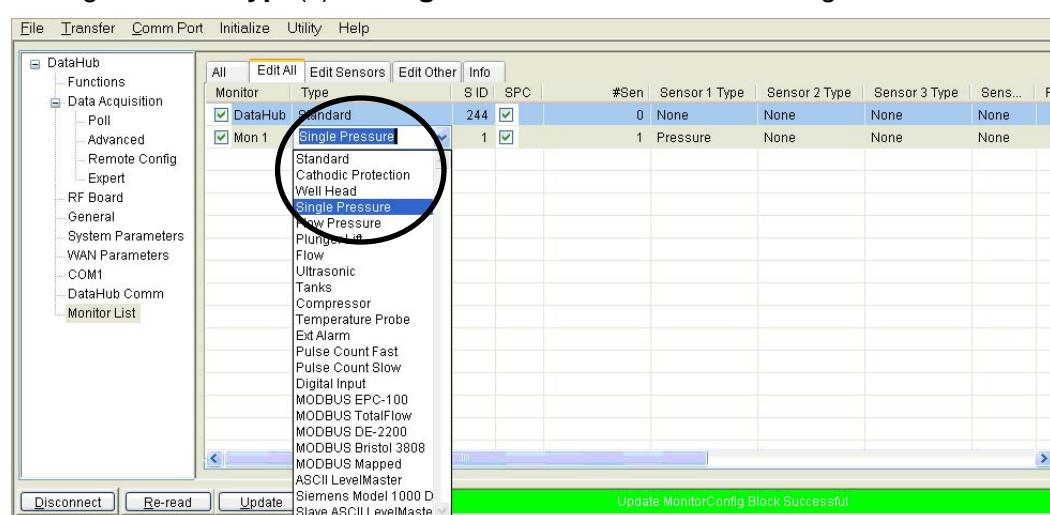

Fig. 7.6: Change Monitor Type
7.16 Change Monitor Type(s) to Single or Well Head Pressure. Fig. 7.6